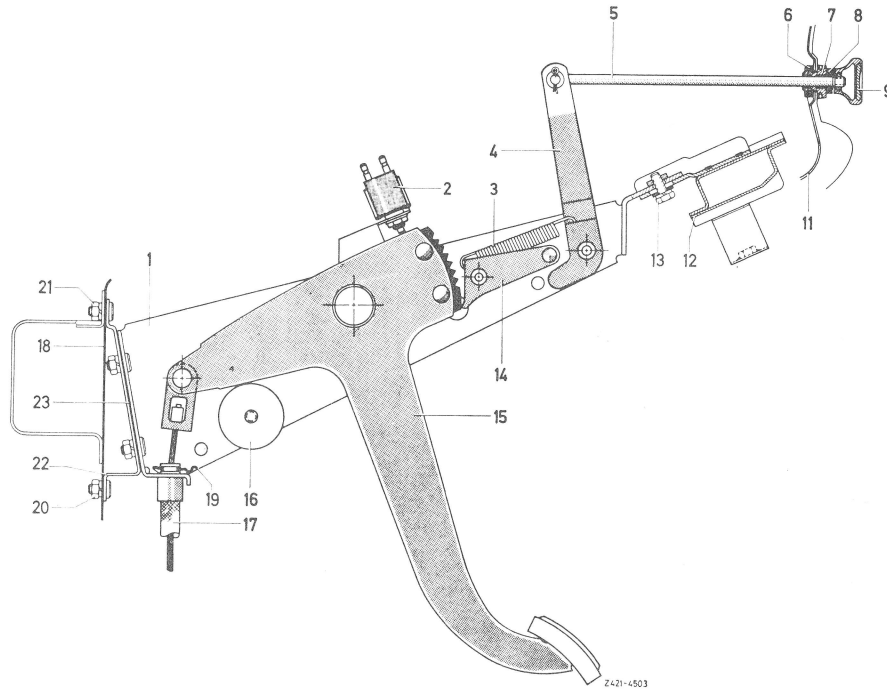

Fig. 3
- 4 Turn steering completely toward the left and unscrew hex. nut (20) in lefthand wheel house (Fig. 3).
- 6 Unscrew hex. nut (21) on front end (Fig. 3).
- 8 Unscrew actuating button (9) for manual release, then remove stop buffer (8) (Fig. 3).
- 9 Disconnect brake cable control (17) from pulling plate of parking brake. Remove spring clamp (19) and take-off brake cable control (Fig. 3 and 6).
- 12 Unscrew hex. bolt (13) from cross beam (12) and remove complete parking brake with connecting piece (22) (Fig. 3).
**13** Attach parking brake in lefthand wheel house, on front end and on cross member underneath instrument panel, inserting linkage for manual release into bore of instrument panel (Fig. 3).
**15** Attach brake cable control (17) into pulling plate on pedal and install spring clamp (19) in cable guide (Fig. 3 and 6).
- 18** Insert stop buffer (8) into groove of pull rod (5) and screw actuating button (9) for manual release to linkage (Fig. 3).